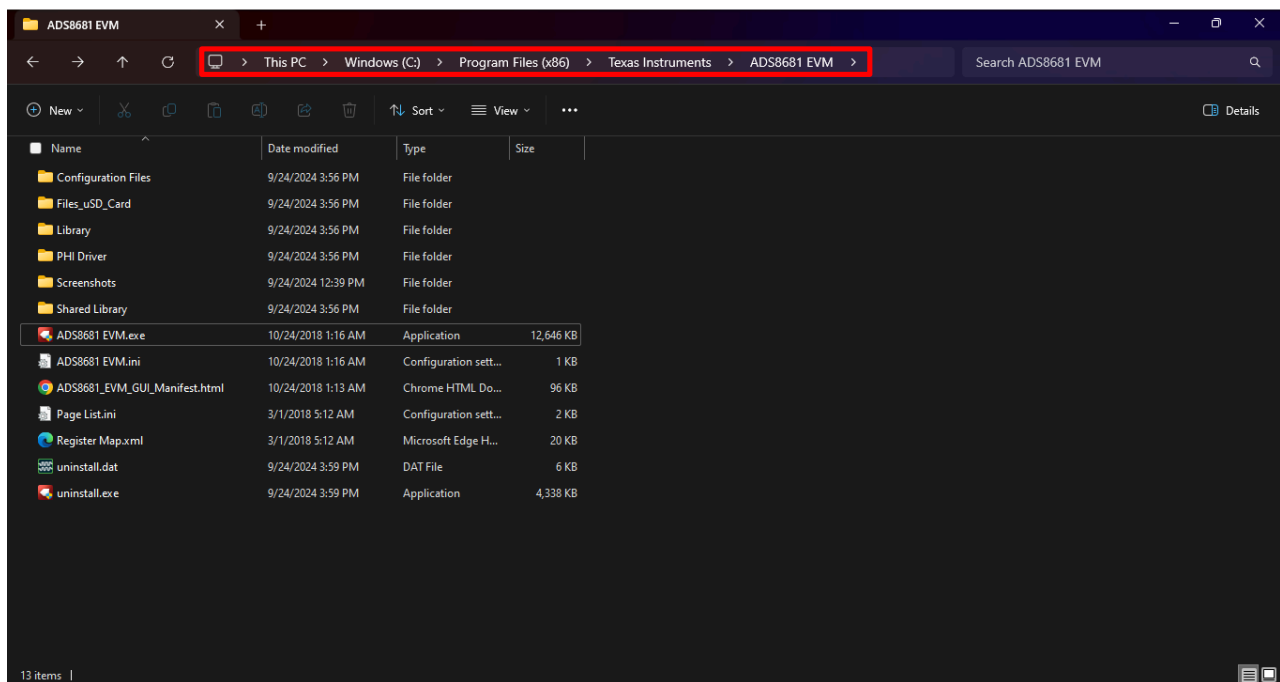

Figure 4-2. Launch ADS8681EVM GUI Software
3. Launch the ADS8681EVM GUI software from the *Start Menu* of computer, *Desktop Shortcut*, or *Installation folder* (Figure 4-2).